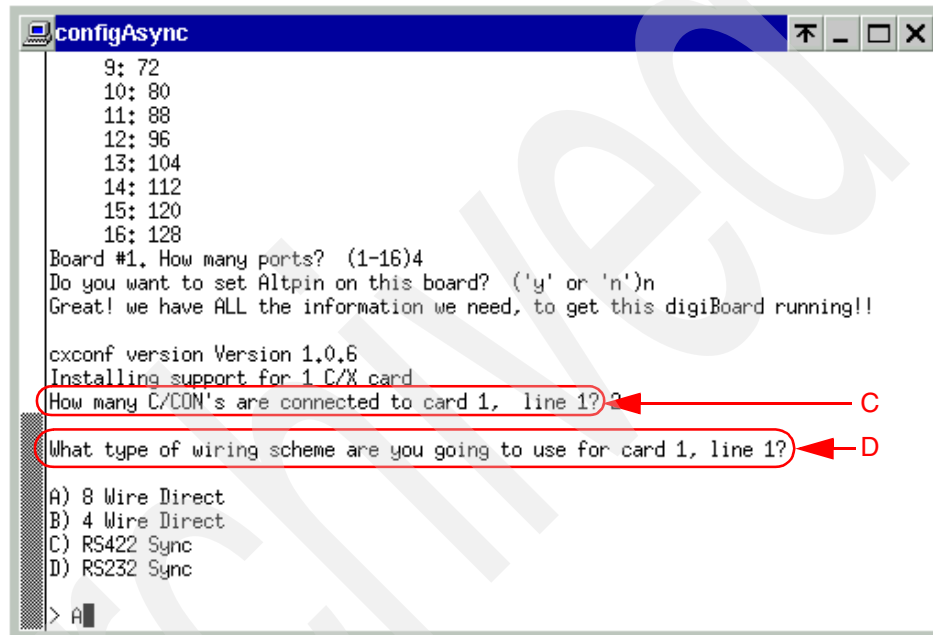

Figure A-6 Specify number of RANs and wiring scheme
6. The window displays the following message, as indicated by C in Figure A-6:
7. The window displays the following message, as indicated by D in Figure A-6: